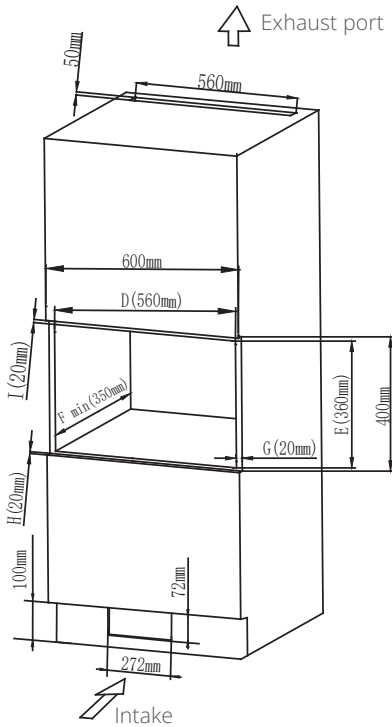

Fig.5
Opening size: (D)560±2 x (E)360±2 x (F) 550±2 (mm) as shown in Fig.5